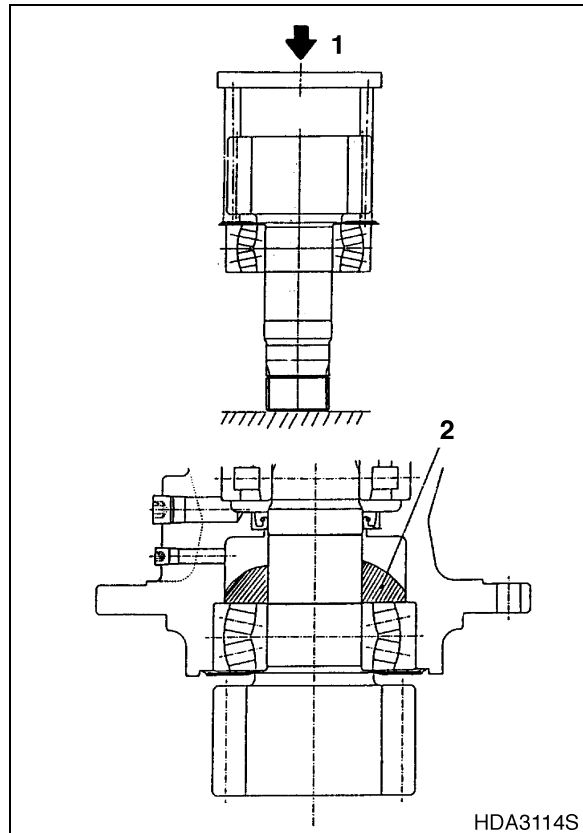

Figure 5
- A. Insert bearing seal (915) into shaft.
- B. Spread grease on inner side of roller bearing (401) then install completely using a press. Apply grease to the bearing (2, Figure 5).